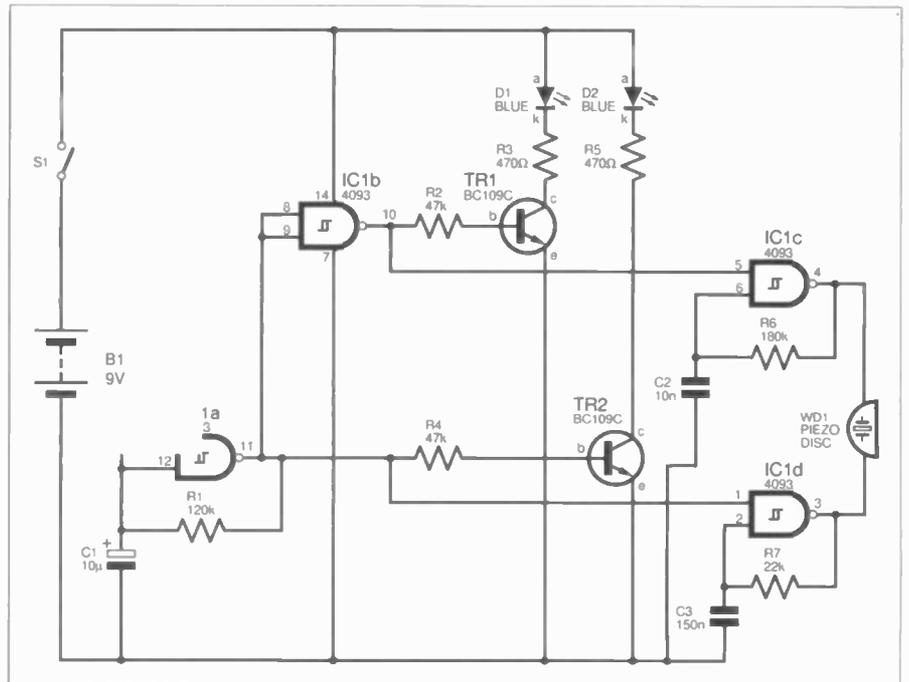

Fig. 6. Circuit for a blue l.e.d. flasher/siren for a model fire engine.
**S**TILL on the theme of model vehicles, Fig. 6 was designed as a circuit to add both a blue flashing light sequence plus a two-tone siren effect, to a model fire engine. IC1 is a quad NAND Schmitt trigger and IC1a provides a low-frequency waveform which is inverted by IC1b.